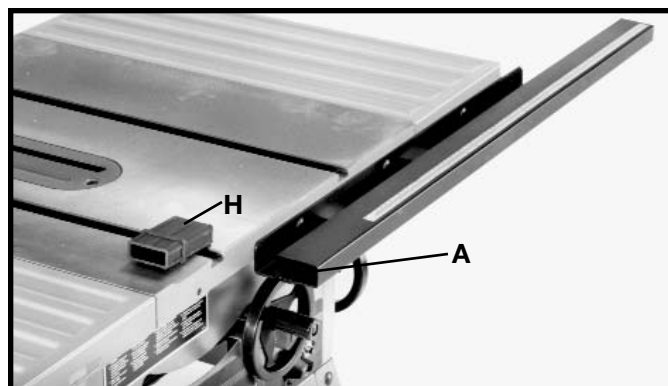

Fig. 15
2. Insert longer end of front guide rail extension connector (H) Fig. 15, into end of guide rail (A).